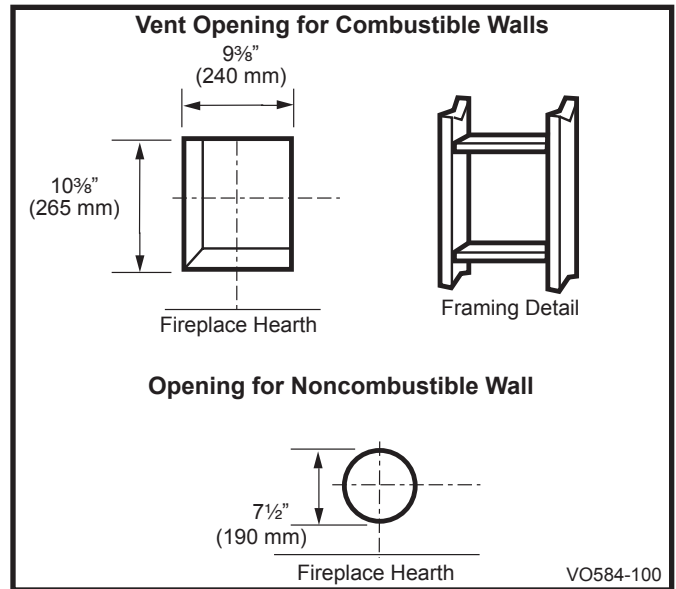

Fig. 22 Locate vent opening on wall.
For combustible walls first frame in opening. (Fig. 22)
**Combustible Walls:** Cut a 103/8" H x 93/8" W (265 mm x 240 mm) hole through the exterior wall and frame as shown. (Fig. 22)